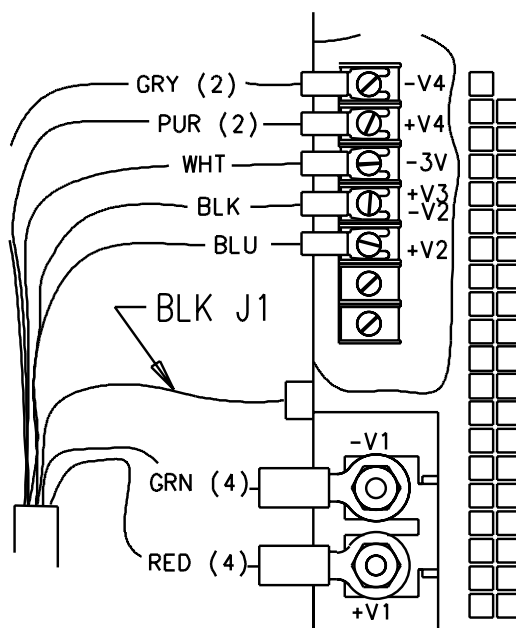

Figure 2-19 OBC Power Supply Power Harness Connections
- a.) Connect new power harness to OBC power supply. Reference Figure 2-19.